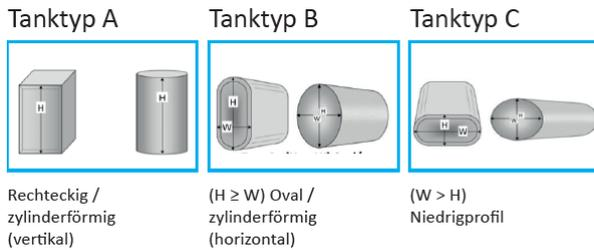

Fig. 2
- Setup 3: Choose tank type A/B/C (see fig. 2)